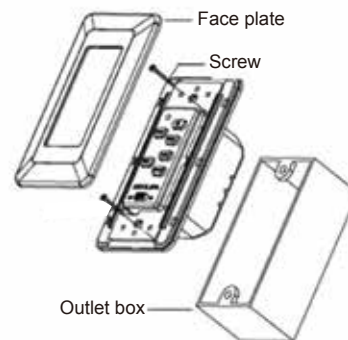

Fig. 32
Step 1. Remove the existing wall plate and switch from the wall outlet box.(Fig.32)